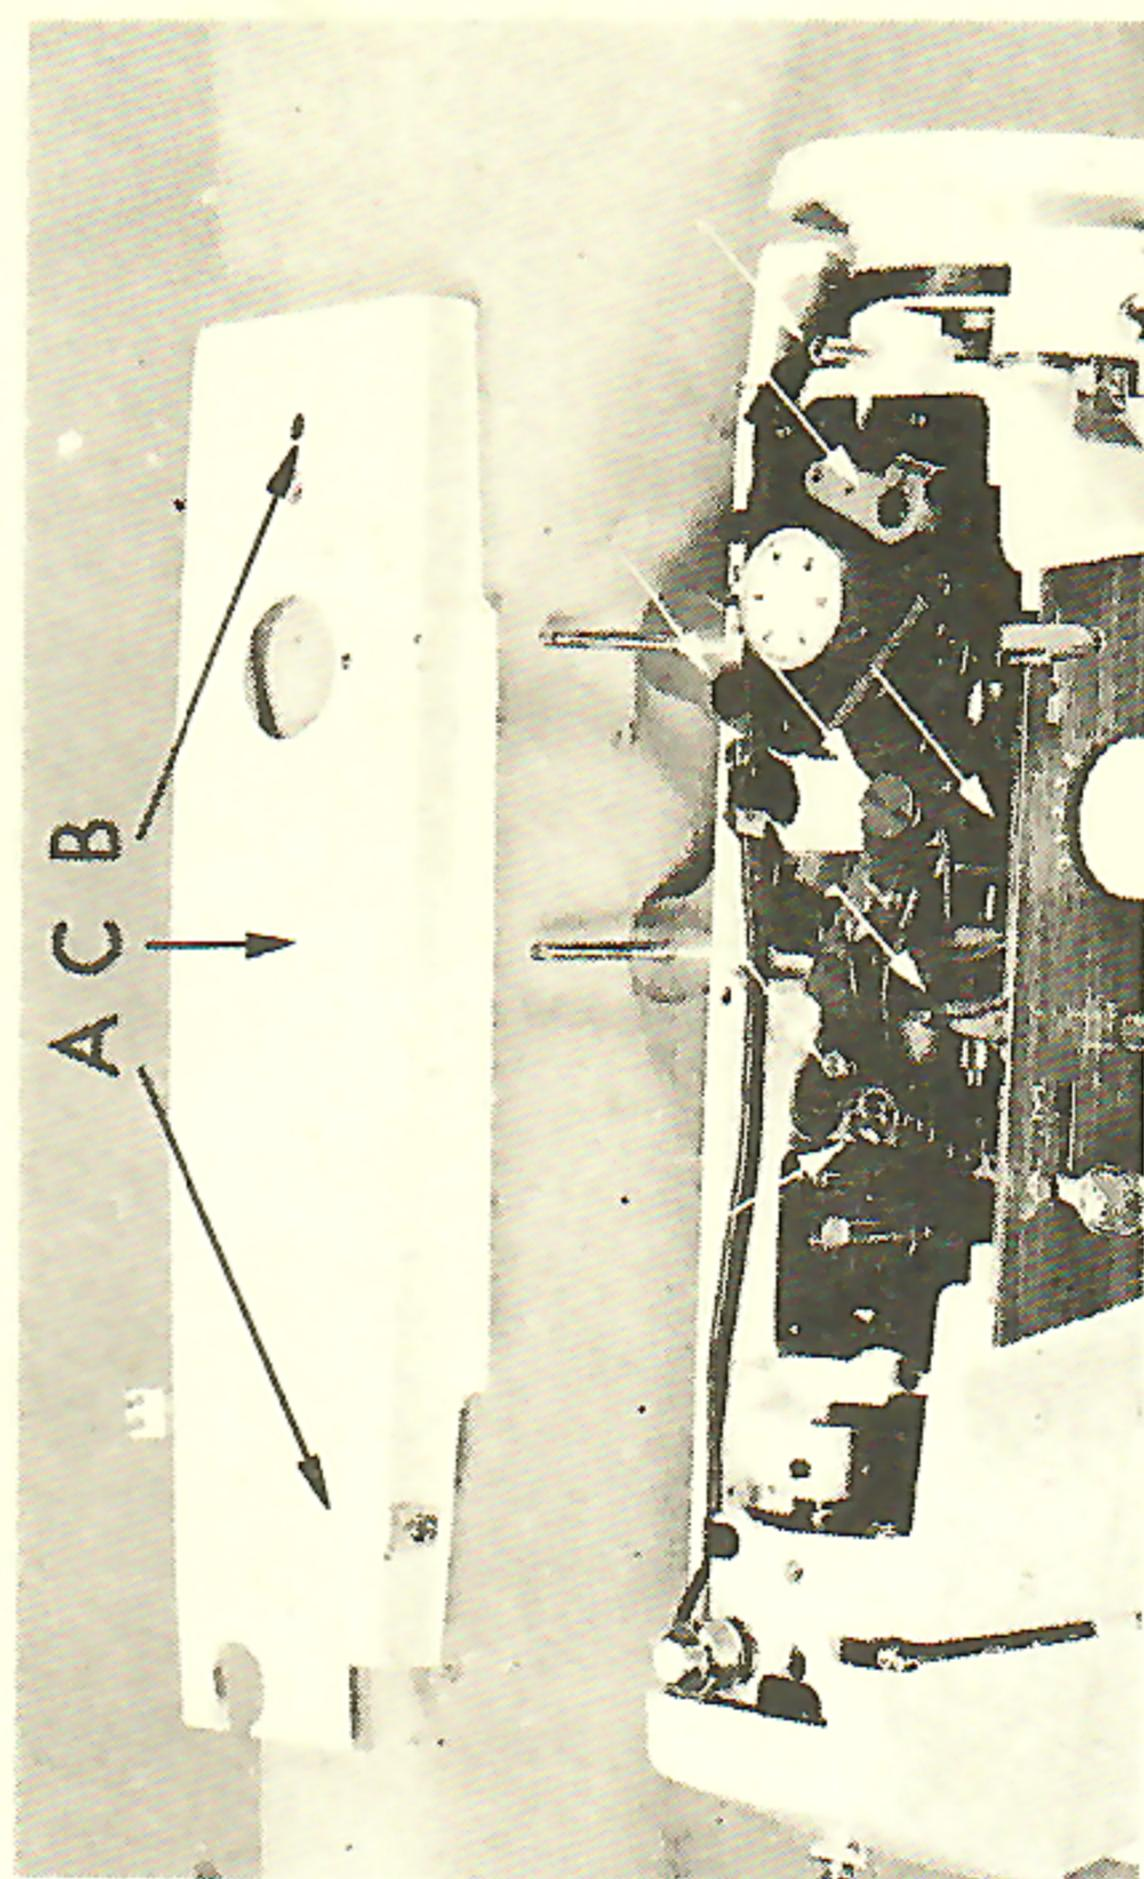

Fig. 52
To oil the top parts of your machine, remove the two screws (A & B) located at each end of the top cover (C). Remove top cover and oil the parts located at the arrow points as in Fig. 52.